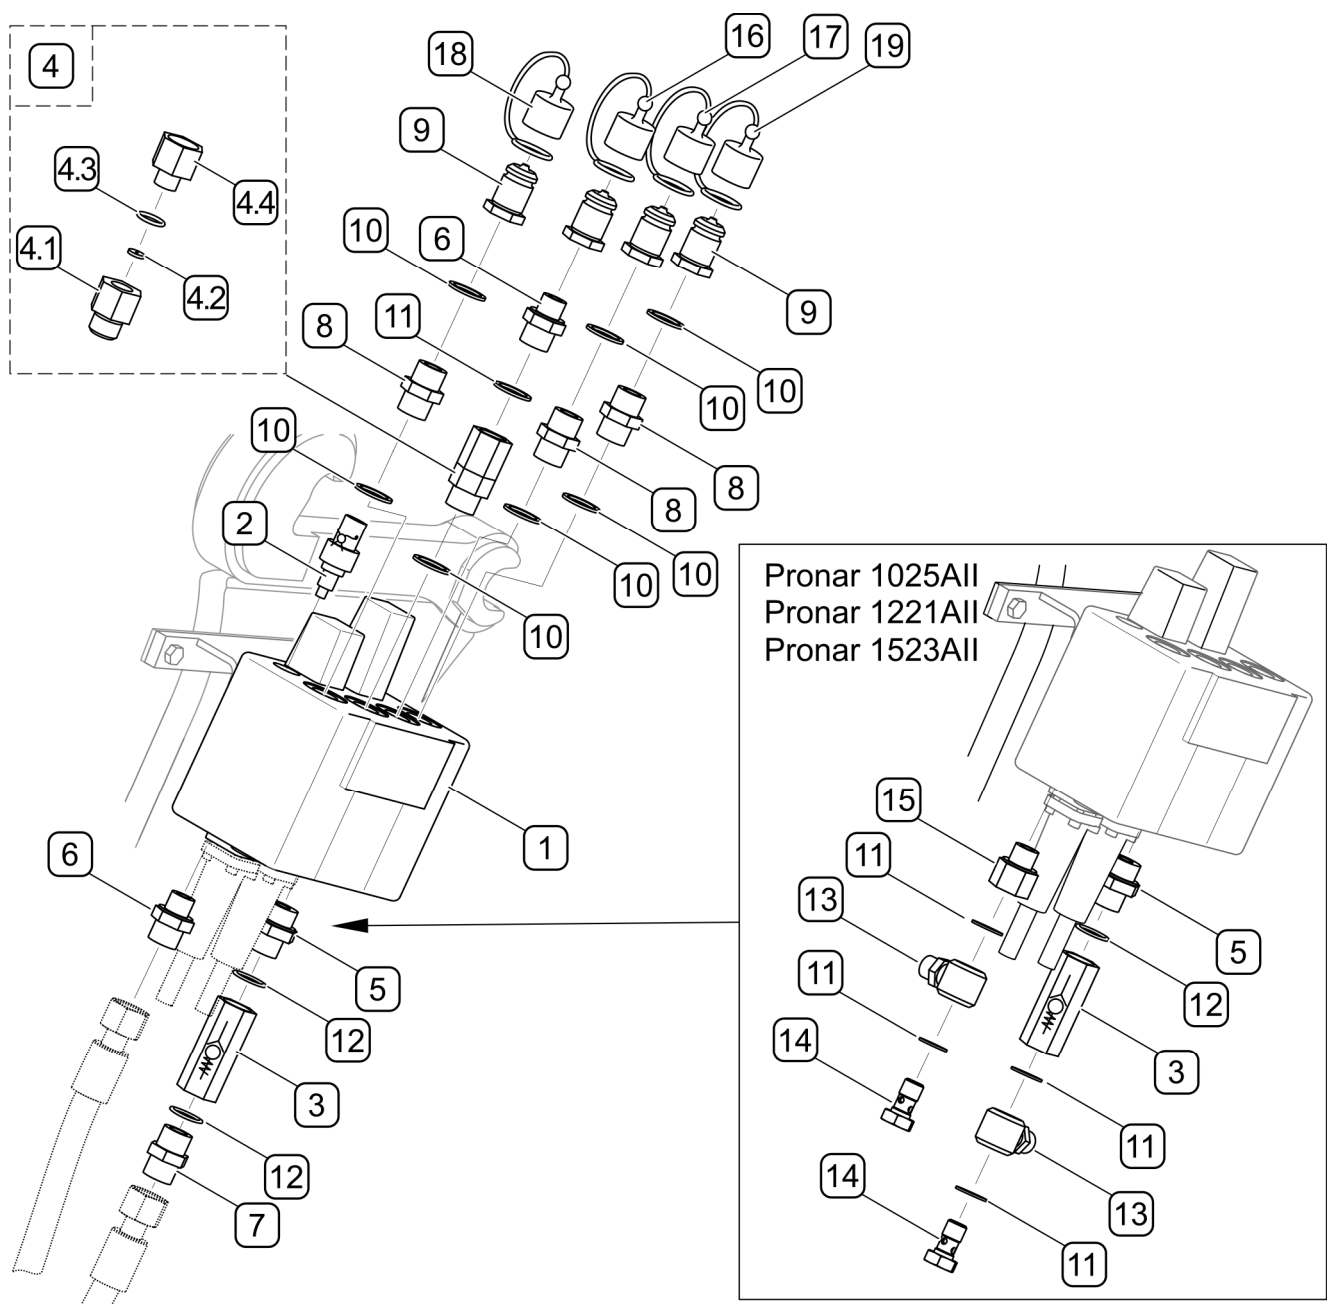

FIGURE 4.5 Installation of hydraulic manifold
The manifold must be properly assembled (FIGURE 4.5) (if it has not been assembled by the manufacturer). Installation of hydraulic system elements should be done by appropriately qualified persons.
Depending on tractor model, use appropriate overflow valve (2) mounted to manifold (1) (FIGURE 4.5).